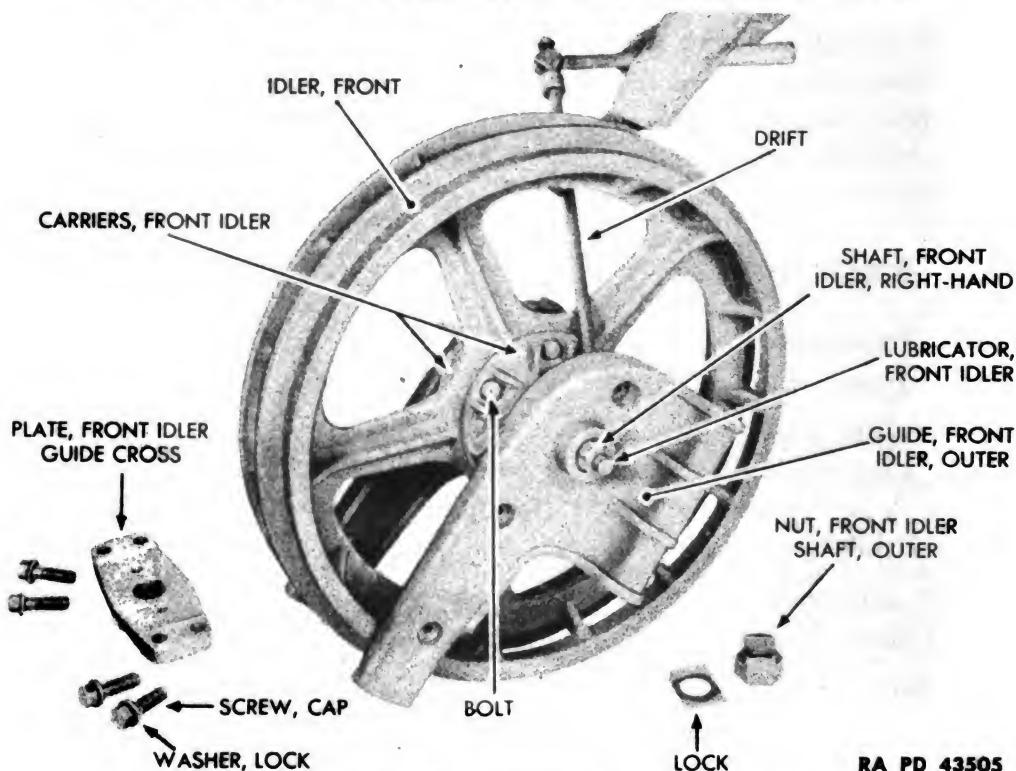

Figure 150 – Right Front Idler Disassembly
b. Procedure.**(1) REMOVE RIGHT FRONT IDLER GUIDE CROSS PLATE (fig. 150).**
(3) REMOVE RIGHT INNER AND OUTER FRONT IDLER GUIDES (fig. 150).
(4) REMOVE FRONT IDLER CARRIERS WITH BUSHINGS (fig. 150).
(5) LIFT RIGHT FRONT IDLER SHAFT FROM FRONT IDLER (fig. 150).